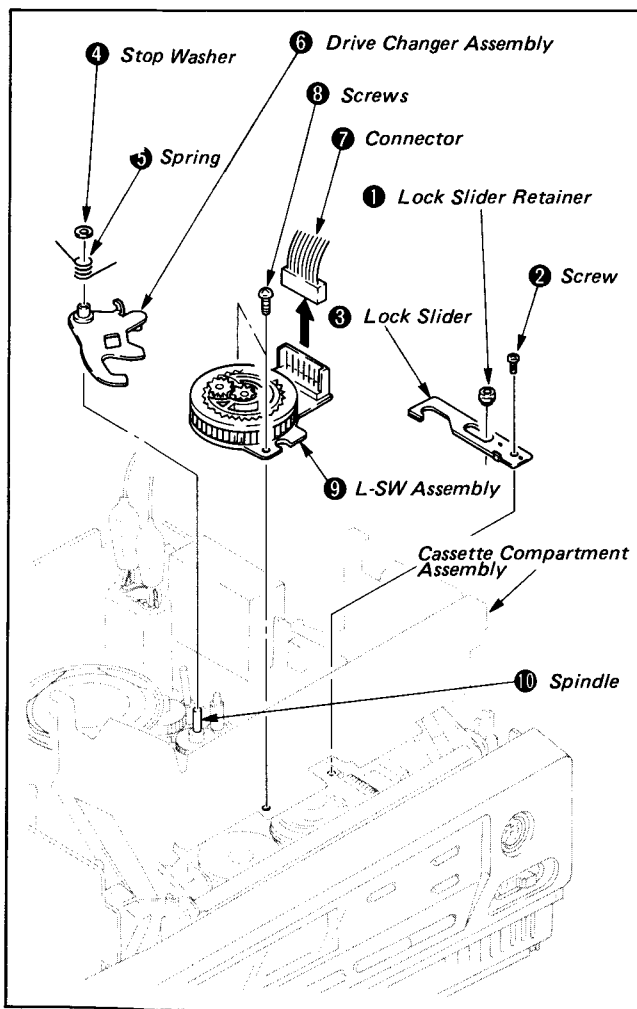

Fig. 1-36
- 2) Remove the lock slider retainer ①.
- 3) Remove the screw ② and lock slider ③.
- 4) Remove the stop washer ④ and spring ⑤.
- 5) Remove the drive changer assembly ⑥.
- 6) Remove the connector ⑦.
- 7) Remove two screws ⑧ and L-SW assembly ⑨. (See Fig. 1-36.)
- 7) Remount the drive changer assembly ⑥. (See Fig. 1-36.)
- 8) Rehook the spring ⑤ and refit the stop washer ④.
- 9) Operate the mode selector and check that the L-SW assembly ⑨ rotates.
- 10) Remount the lock slider ③ and tighten the screw ②. Confirm that the positioning dowel is firmly in place.
- 11) Remount the lock slider holder ①. Note correct vertical direction. (See Fig. 1-36.)